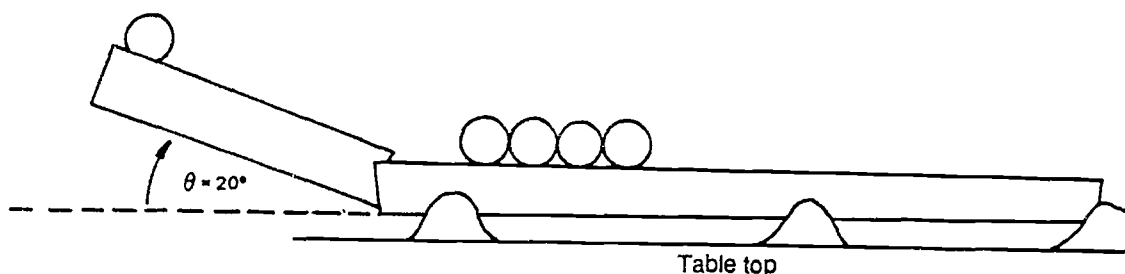

Figure 2. Setup at instant of release.
2. Leave four of the marbles on the track. Take one marble and the short V-track section and position as shown in Figure 2. With your finger, hold the marble near the top of the short V-track section.